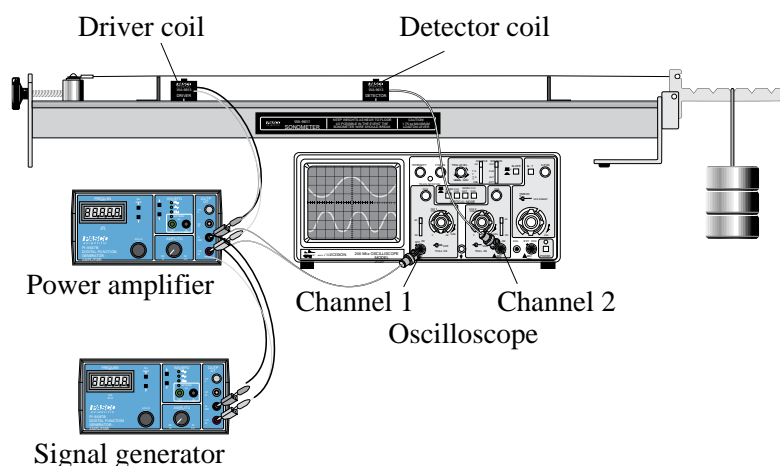

Figure 3. Equipment setup for experiment 1
1. Setup the Sonometer as shown in Figure 3.